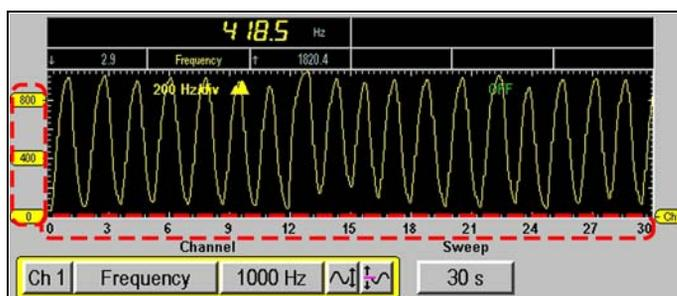

Figure 4-45 Scales Display menu selection sample
- Select **Setup > Scales Display** (Figure 4-45).
The scale values appear along the X (horizontal) and Y (vertical) axis of the graph (Figure 4-45).